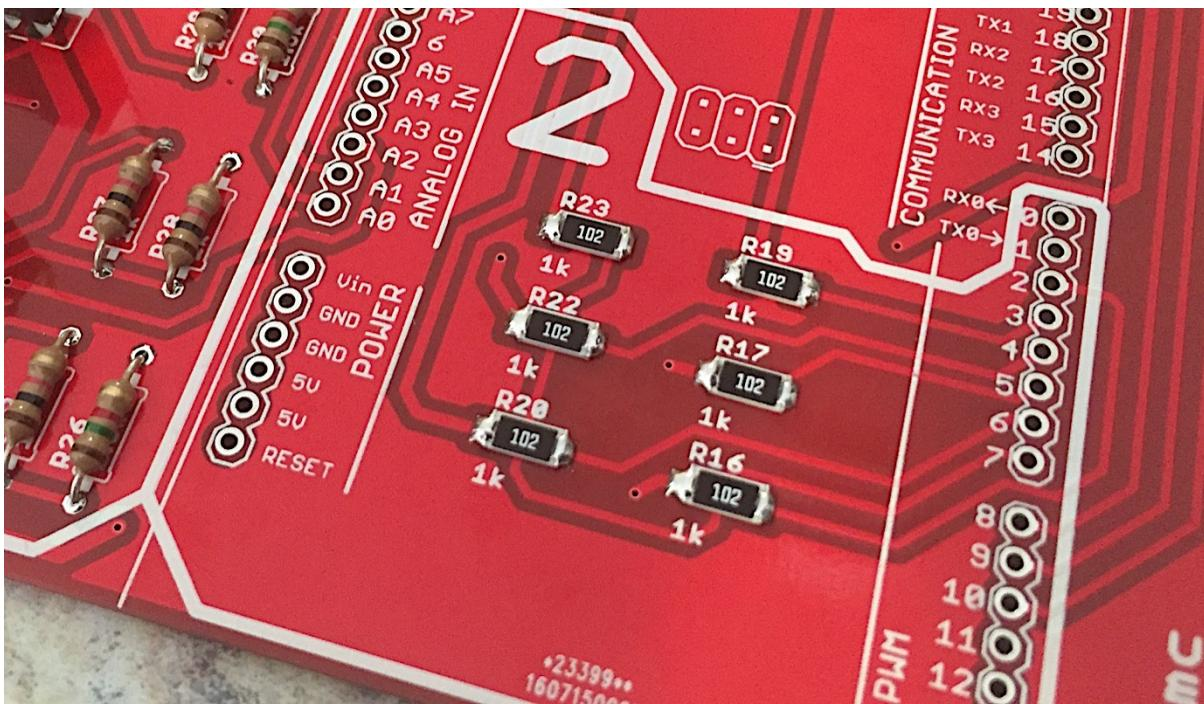

Figure 10: Surface mount resistors mounted at the bottom right corner of the board.
STEP 2A. Due to their small size, the 1K surface mount (SM) resistors may not be included in your kit. **Your instructor or TA will provide you with the correct SM resistors.** Solder the six SM resistors located near the bottom right corner of the board (R16, R17, R19, R20, R22, R23). (See Figure 10).